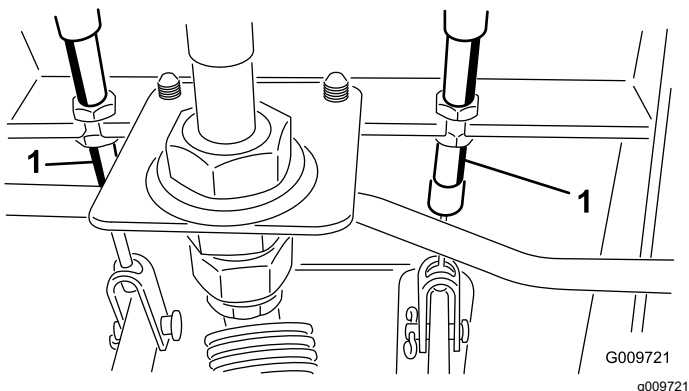

Figure 74
- A. Loosen the front nut on the threaded end of the brake cable (Figure 74).